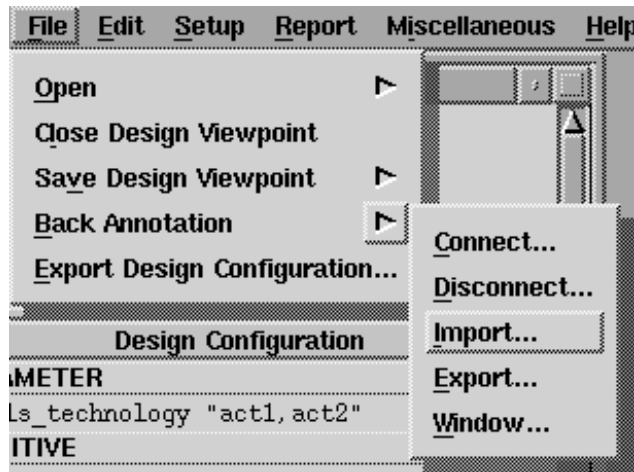

Figure 4-4. File Pull-Down Menu
7. **Open an Import Back Annotation window.** Select “Back Annotation” from the File menu. From the pull-down menu click on Import, as shown in Figure 4-4.